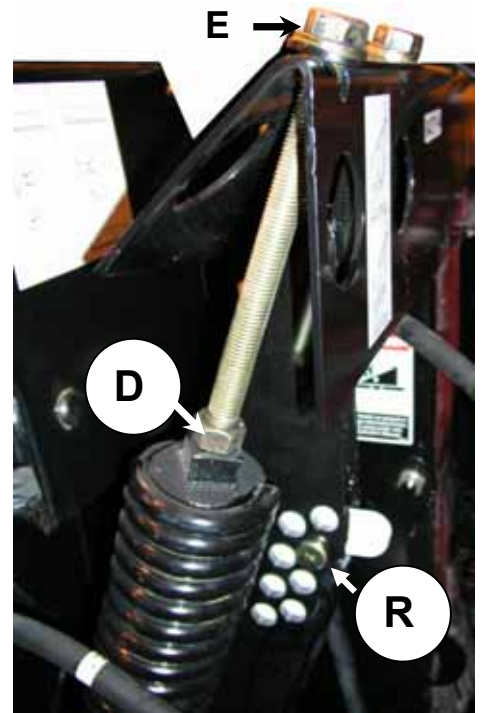
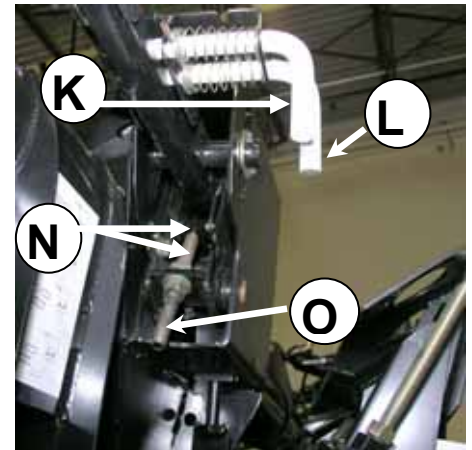
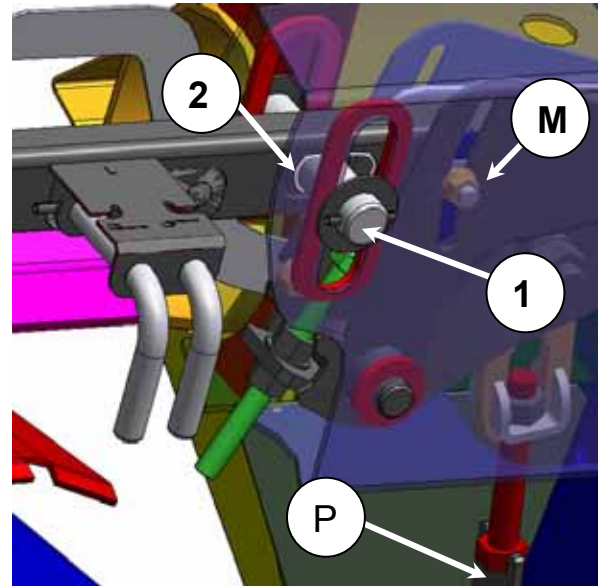

Fig.3 Float Engaged
Fig. 5 Wing Balance Check
Fig 9. Wing Flex Range- Frown Shown Smile to be Checked at Other End of the Slot
- Place adapter float lock in down position (float engaged see Fig.3) on both sides of adapter.
- Inspect distance at (F) between float arm (G) and down stop (H). **On the ground cutting (F) = 13mm (1/2").** (Notch in down stop arm is used for a visual reference to gauge correct float for this field condition). **Off the ground cutting (F) = Float arm (G) touching down stop (H)**
- To adjust distance (F) Loosen jam nut (D), tighten both bolts (E) equally to increase dimension, loosen to decrease. Tighten jam nut (D) when adjustment is complete
- Ensure adapter float is engaged (R) (Fig.3) on both sides of adapter.
- Pull wing pins (A) out one at a time. Note the ease at which each pin pulls out of the engaged position. This will help determine the correct wing balance when checking the smile and frown adjustment.
- NOTE:** Before adjusting the bell crank, lower headers to round until vertical strut (P – See Fig 9) is loose
Outside pin (K) should just pull out with no resistance. If smile pin (K) is tight, loosen bell crank nut (M - See Fig. 9) and adjust nuts (N – see Fig. 5) to move pin upwards (exposed threads should be shorter at O). Adjust until outside pin moves freely.
If frown (inside pin L) is tight, loosen bell crank nut (M - See Fig. 9) and adjust nuts (N – See Fig. 5) to move pin downward (exposed thread should be longer at O). Adjust until inside pin L has slight pressure on it when removed.
- Engage float by lowering float lockout bracket (R - See Fig.3).
- Check with wing lock out pins (L & K – See Fig 5) disengaged.